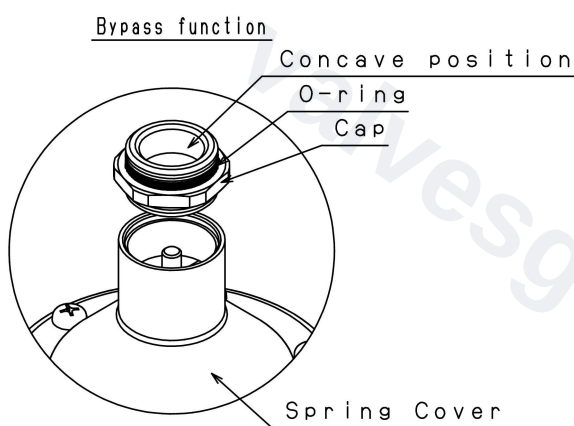

Fig.1.
- (2) If perform pneumatic inspection with the concave position upward (Fig.1), do not sprinkle forming liquid to the O-ring (18).
- (2) Remove the cap and turn it out (make concave portion upward), and screw it firmly onto the spring cover. (Fig.1)